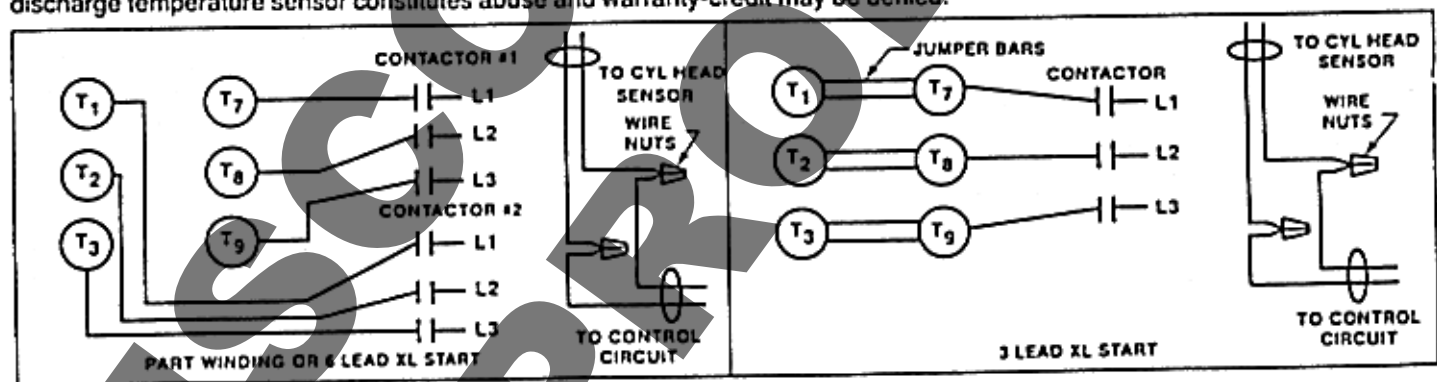

Figure 2 - 06EX CYLINDER HEAD SENSOR AND OVERCURRENT PROTECTED COMPRESSORS
All 06EX service compressor models are supplied with cylinder head sensor installed to provide improved motor protection; 06EX models are a direct replacement for original compressors using calibrated overcurrent protection devices and cylinder head sensor protection. Wire per Figure 2.
When replacing original compressors which used the Robertshaw protection system, rewire per Figure 2, using conduit package P/N 06EA601052 (should be ordered along with the service compressor). Wire the cylinder head sensor leads through the compressor terminal box using the black wire and one of the three orange wires that were previously connected to the Robertshaw sensor terminals. Connect orange and black leads to the original control circuit wires removed from the M1 and M2 terminals on the module. Remove and discard the old Robertshaw module and the (2) extra orange sensor leads. Disconnect the module power leads T1 and T2 and insulate or tape off. Complete the terminal box connections per Figure 2.
Original compressors using obsolete thermotector protection must be converted by addition of P/N 06EA601052 conduit kit. Connect the cylinder head sensor leads to original thermotector leads and wire per Figure 2.